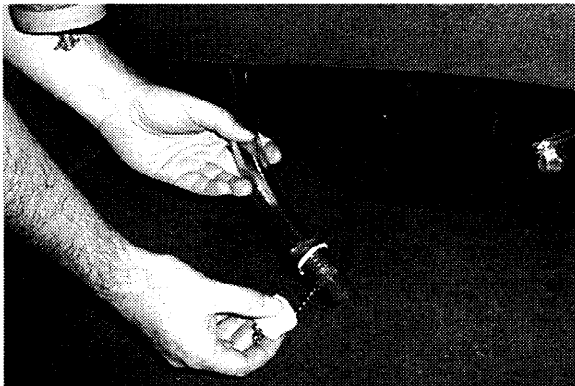

Figure 29
4. Turn drain hose cap counter-clockwise to remove (Fig. 29).